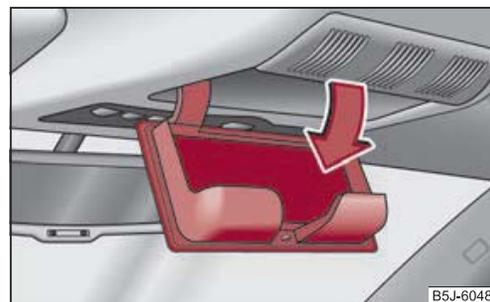

Fig. 83 Detail of the headliner: Stowage compartment for spectacles
- Press on the lid of the stowage compartment, the stowage compartment opens downwards ⇒ fig. 83.